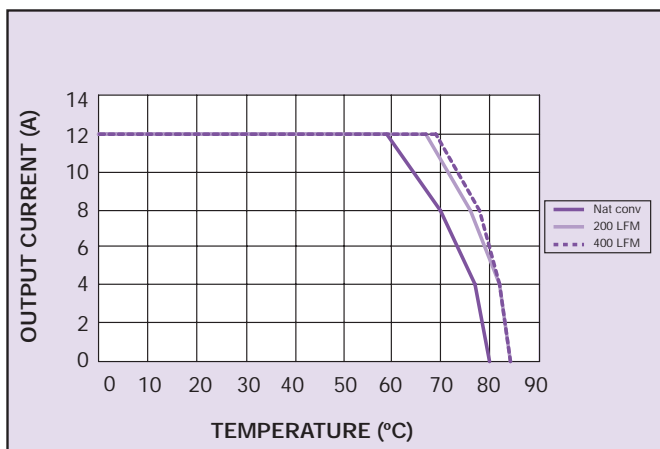

Figure 1 - Derating Curve
- See Figures 1 and 2 for sample derating curves. For the full set of derating curves see Application Note 165.